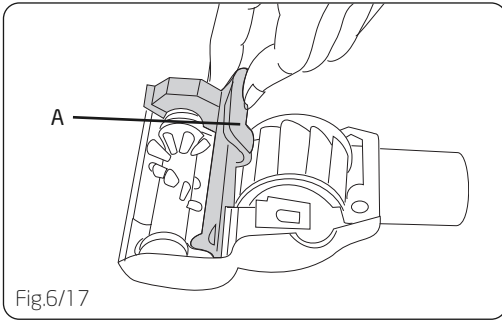

Fig.6/17
Replace belt guard (A) making sure not to pinch brush bristles in guard. Turn brushbar, to make sure it rotates freely (Fig 6/17).